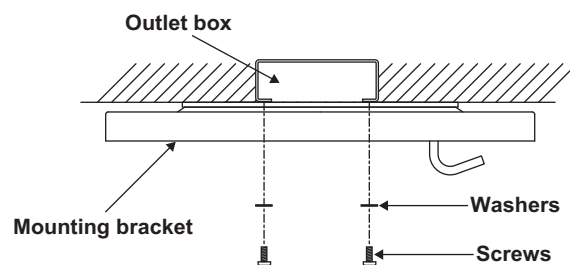

Figure 5
2. Attach the mounting bracket to the outlet box using the two screws and washers provided with the outlet box. For best performance be sure the mounting bracket is level and secured firmly against the ceiling. You may need to insert additional washers (not provided) between the outlet box and mounting bracket to make it level. (Fig. 5).